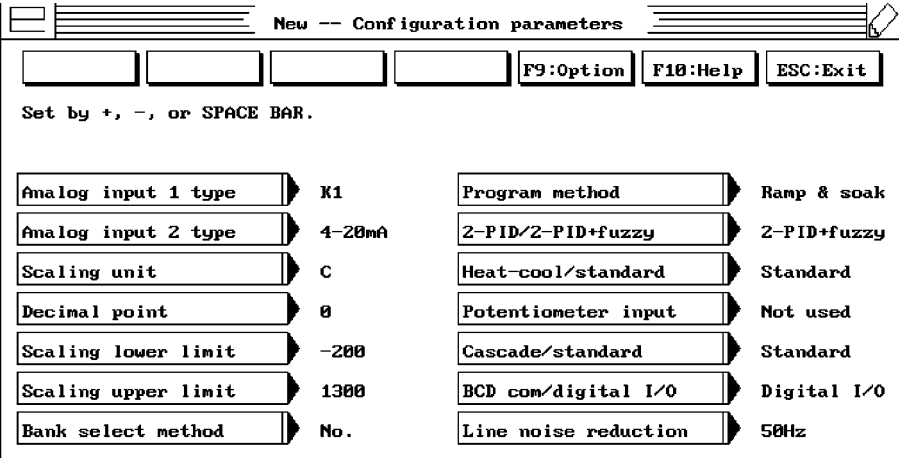

Figure 4
6. You may now configure your ES100 (Figure 4). Once you have completed configuring your ES100, click on the **ESC:Exit** button. A pop-up menu appears to create a new file, then select **ENT:OK**. The main screen for **Setting <offline>** will appear.